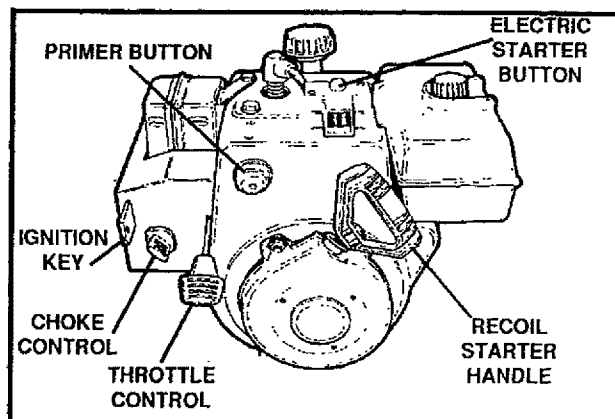

FIG. 3
- To stop the engine, push the throttle control lever to **STOP** and pull out the ignition key (See FIG. 3).